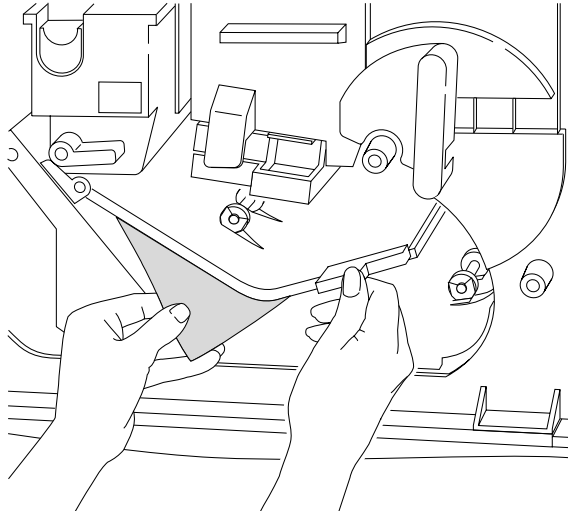

Figure 3-55 Removing paper jam from duplex path
3. Remove paper as shown in Figure 3-55 and close the door.